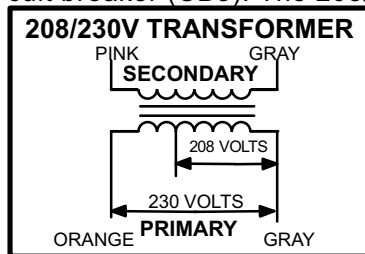

FIGURE 3
formers use two primary voltage taps as shown in figure 3, while 460 (G) and 575 (J) voltage transformers use a single primary voltage tap.